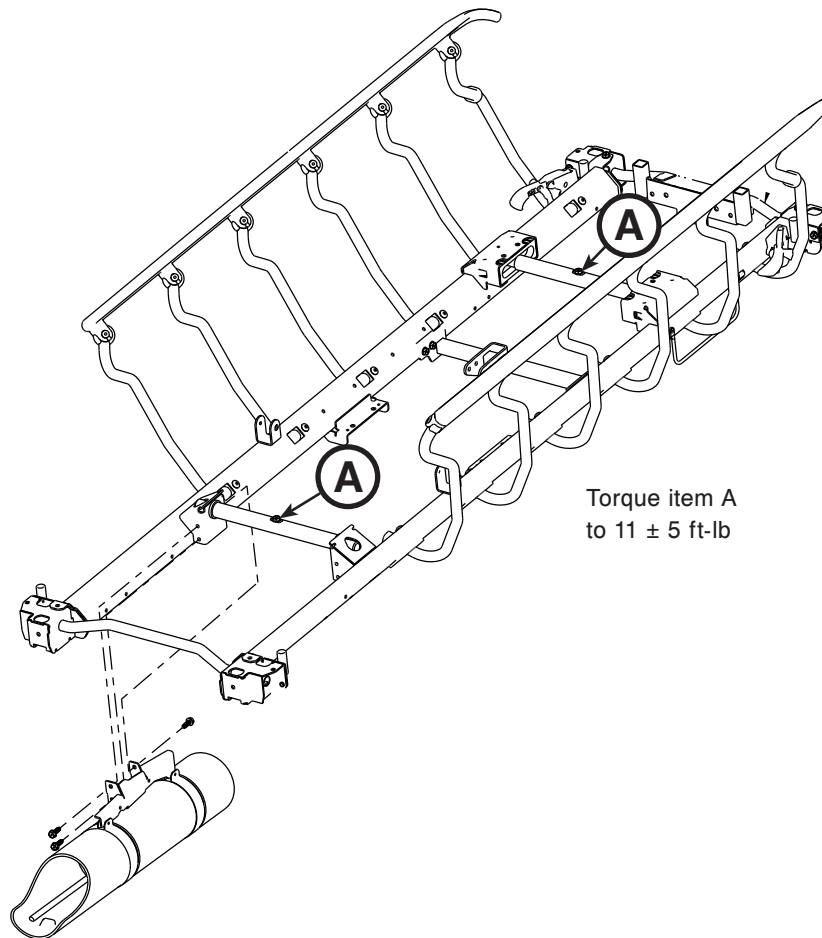

Figure 27
2. Using a 1/2" socket with a 3/8" drive extension and a 3/8" drive ratchet, remove the two hex washer head screws (A) that hold the jack support tubes to the jack shafts (Figure 27).